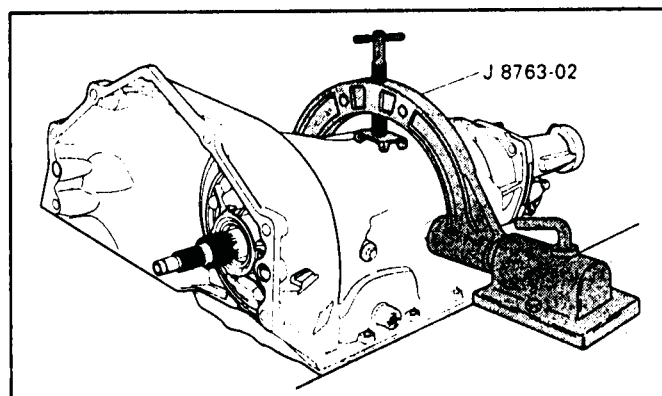

Figure 33
2. Install holding fixture J-8763-02 onto the transmission case as shown in Figure 33.
3. Install holding fixture into the base as shown in Figure 33.